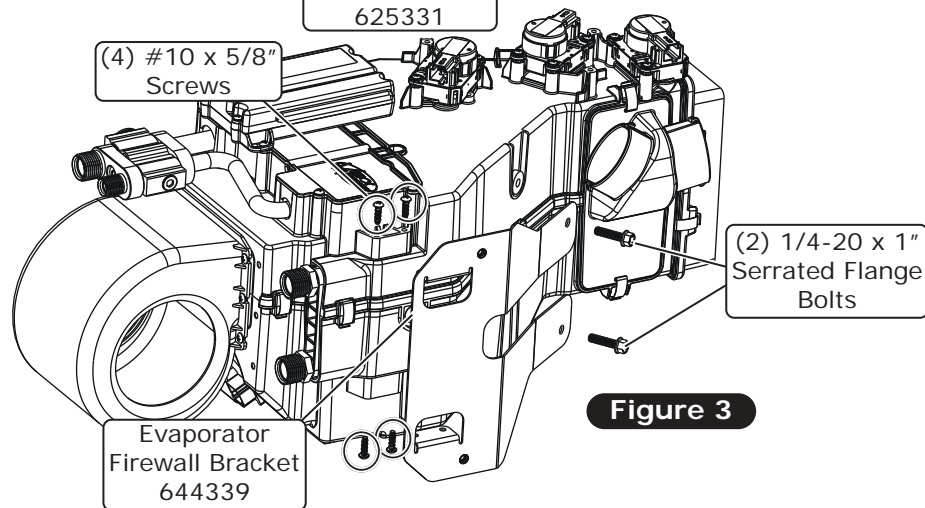

Figure 3
6. On a workbench, install the evaporator firewall bracket using (2) 1/4-20 x 1" serrated flange bolts and (4) #10 x 5/8" screws (See Figure 3, below).
9. Using the center louver plenum assembly as a guide, mark and drill (2) 5/32" holes into the dash bottom (See Figure 3, below).
10. Secure the center louver plenum assembly to the dash using (2) #8 x 1/2" pan head screws, and install (2) 1/2" plastic plugs into the holes as shown in Figure 3, below.
11. Install the (2) 3.875" x 1.562" louvers into the center louver plenum as shown in Figure 3, below.